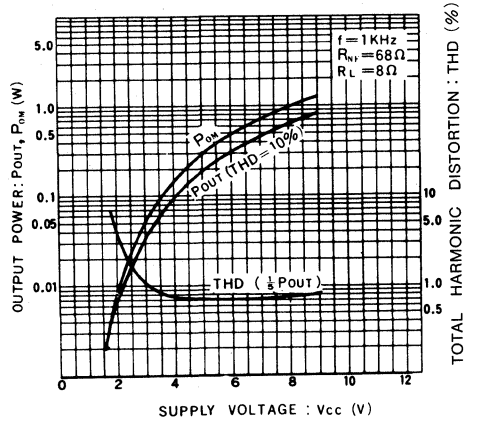

Fig.2 定格出力電力
- 1) Output of 330mW (THD=10%) at 8Ω load and 6V operation (See Fig. 2).